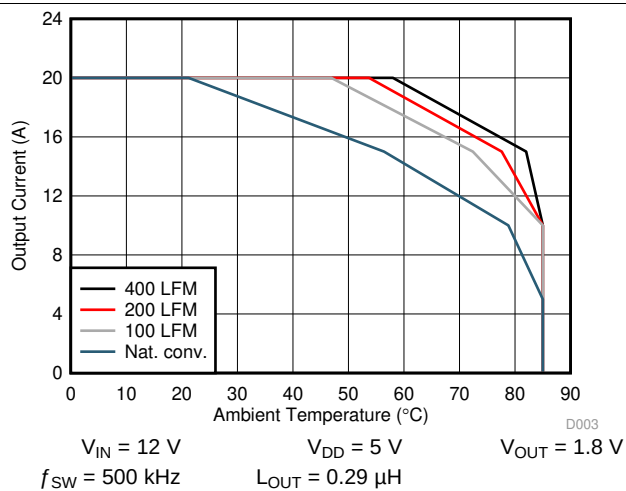
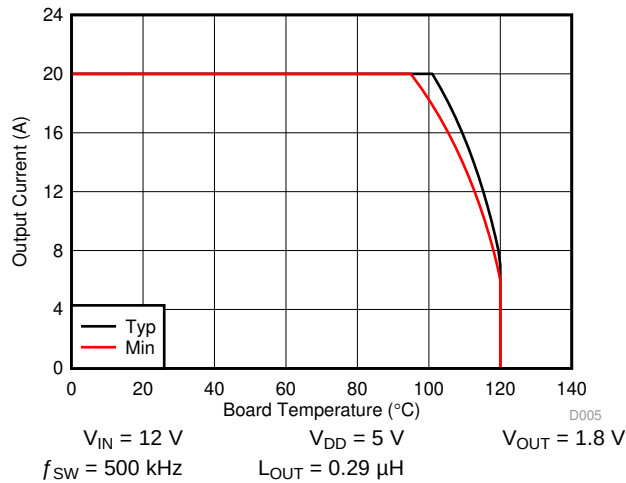

Figure 3. Safe Operating Area – PCB Horizontal Mount ⁽¹⁾
Figure 5. Typical Safe Operating Area ⁽¹⁾
The SOA curves in the CSD97376Q4M data sheet give engineers guidance on the temperature boundaries within an operating system by incorporating the thermal resistance and system power loss. Figure 3 and Figure 5 outline the temperature and airflow conditions required for a given load current. The area under the curve dictates the safe operating area. All the curves are based on measurements made on a PCB design with dimensions of 4 in (W) $\times$ 3.5 in (L) $\times$ 0.062 in (T) and 6 copper layers of 1-oz copper thickness.